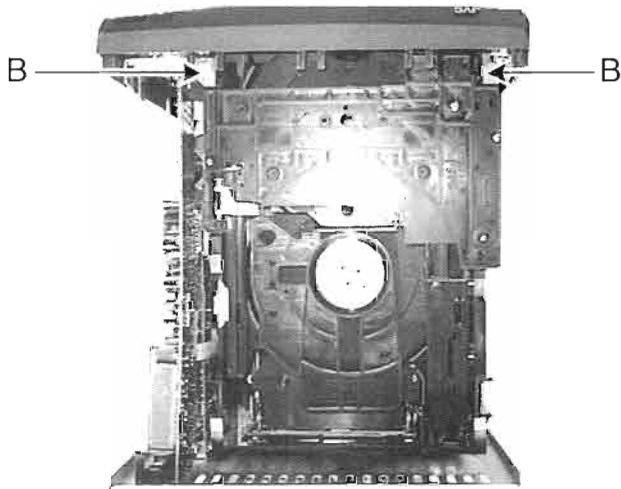
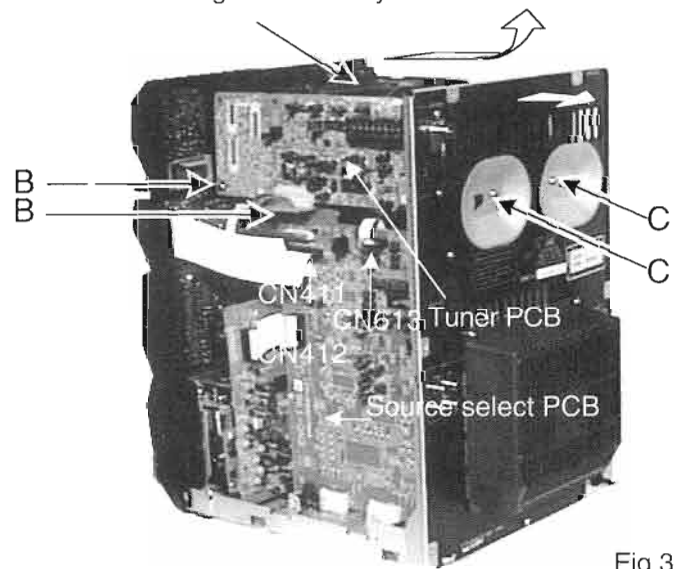

Fig.2
Fig.3
1. Remove 2 screws(B)fastening up side (Fig. 2).
3. Remove 2 screws(B) holding the PCB's.
5. Remove the changer mechanism ass'y(Fig.3).